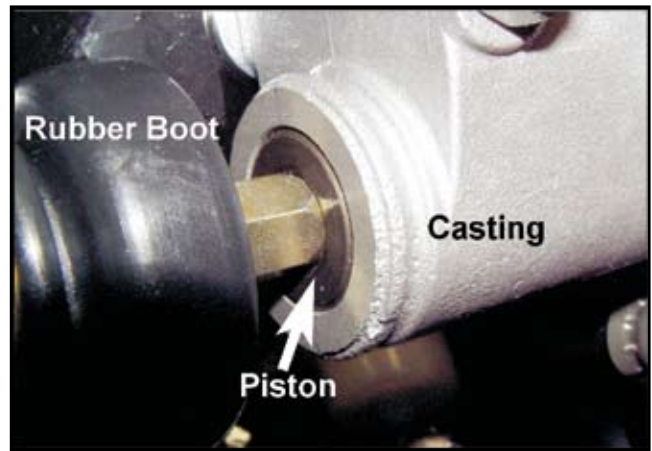

Figure 7-24. Location of piston.
- Pull back the rubber boot at both master cylinder plunger pins and check each piston location relative to the face of the master cylinder casting as illustrated in Figure 7-24. Use a straight edge against the face of the casting to ensure the piston is between zero and 0.5 mm depth in the master cylinder.